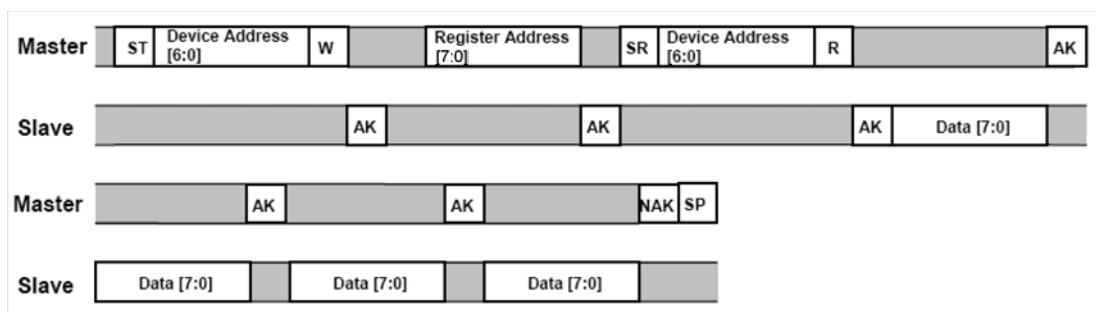

Figure 7. Multiple Bytes Read - The Master is reading multiple sequential registers from the MMA7455L
The MMA7455L automatically increments the received register address commands after a read command is received. Therefore, after following the steps of a single byte read, multiple bytes of data can be read from sequential registers after each MMA7455L acknowledgment (AK) is received until a NACK is received from the Master followed by a stop condition (SP) signalling an end of transmission. See Figure 7.